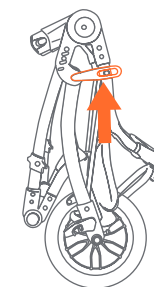
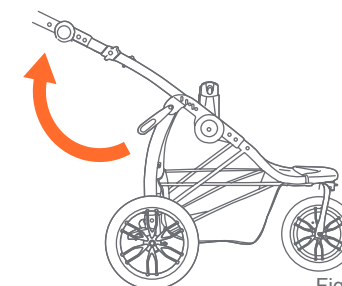

Fig. 20a
Fig. 20b
- 20)** • Unlock the release lever (Fig. 20a) and unfold stroller frame by pulling upward on the stroller handle until the frame locks (Fig. 20b).